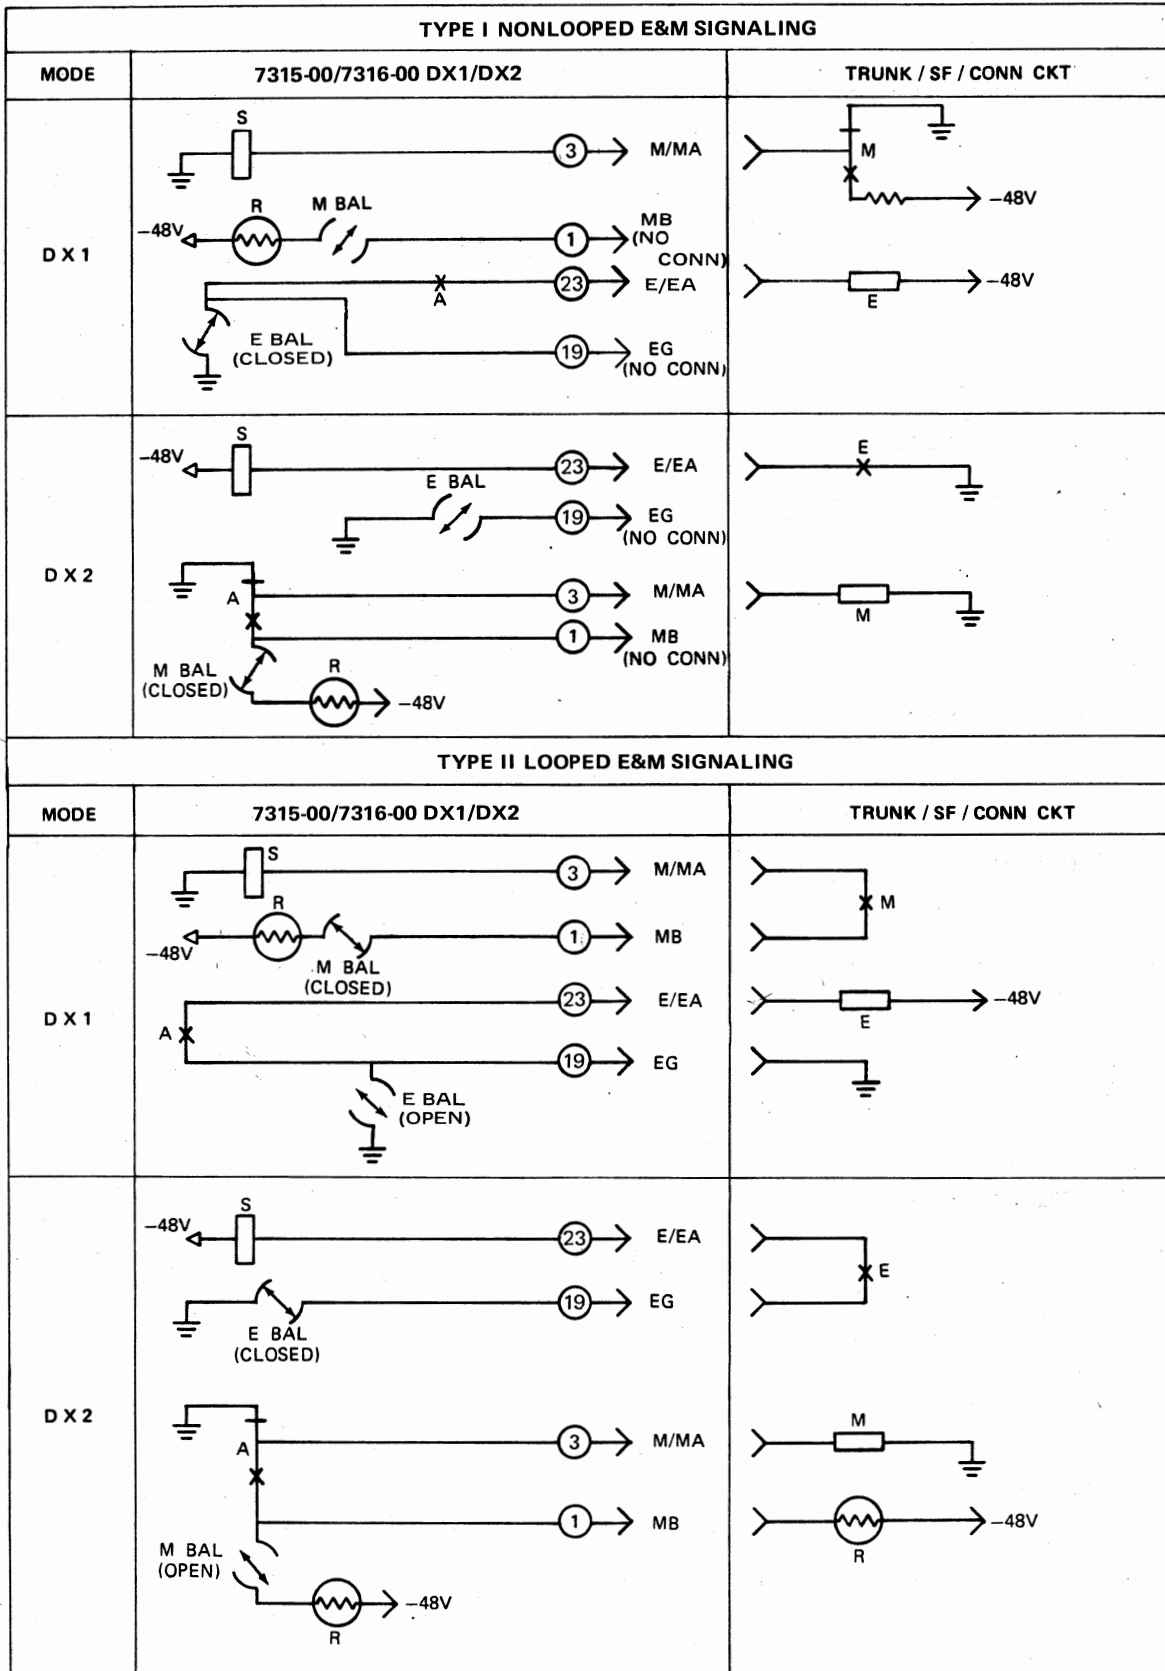

Figure 4. 7315-00 And 7316-00 Resultant DX1/DX2 Connecting Circuits With Looped (Type I) And Nonlooped (Type II) E&M Signaling
leads in the normal configuration. Refer to the schematic diagrams (Figures 6 and 7) and Figure 4 during the following circuit description.
2.13 The 7315-00 and 7316-00 modules are also designed for Type II looped E&M signaling. For an explanation of this type of operation, refer to Figure 4 and the following paragraphs. (Note that Figure 4 shows nonlooped Type I as well as looped Type II signaling configurations for DX1/DX2 modes of operation.)